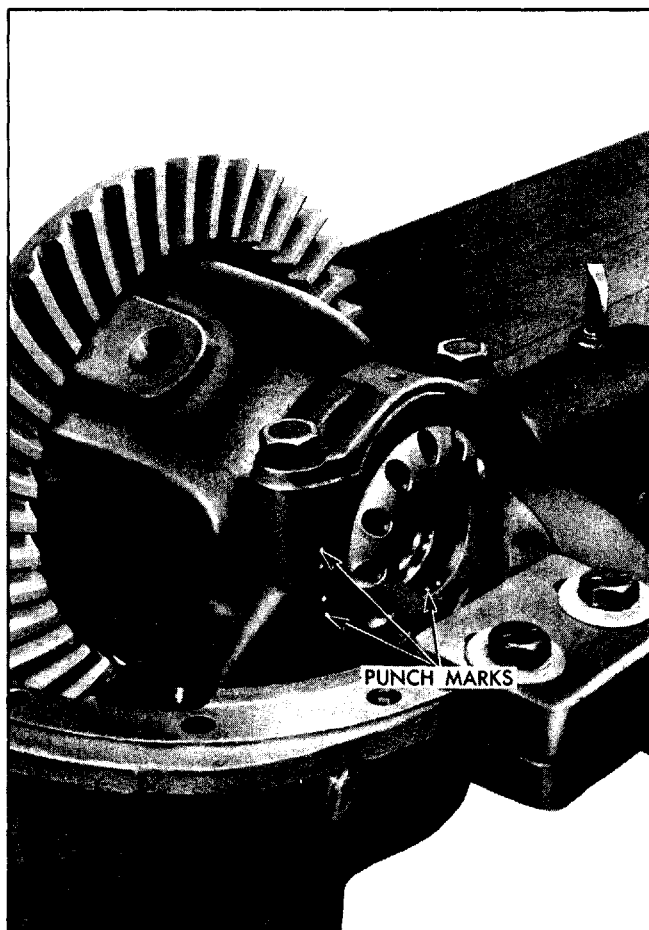

Fig. 4-28 Bearing Cap and Adjusting Nut Marked For Side Location
1. Mark bearing caps and adjusting nuts by some suitable method such as punch marks to distinguish right from left so they can be replaced on correct sides (Fig. 4-28).
1. If not previously done, mark right and left bearing caps and adjusting nuts (Fig. 4-28); remove adjusting nut locks.